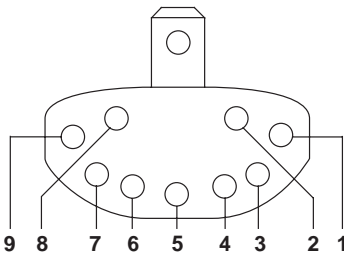

Fig. 6 Level control
- The operating differential may be adjusted by altering the position of the stops on the multi-hole limit plate (see Figure 6). The normal stop positions are 1 - 9. These settings should be used if the stops are inadvertently removed or if a replacement float switch is to be fitted.